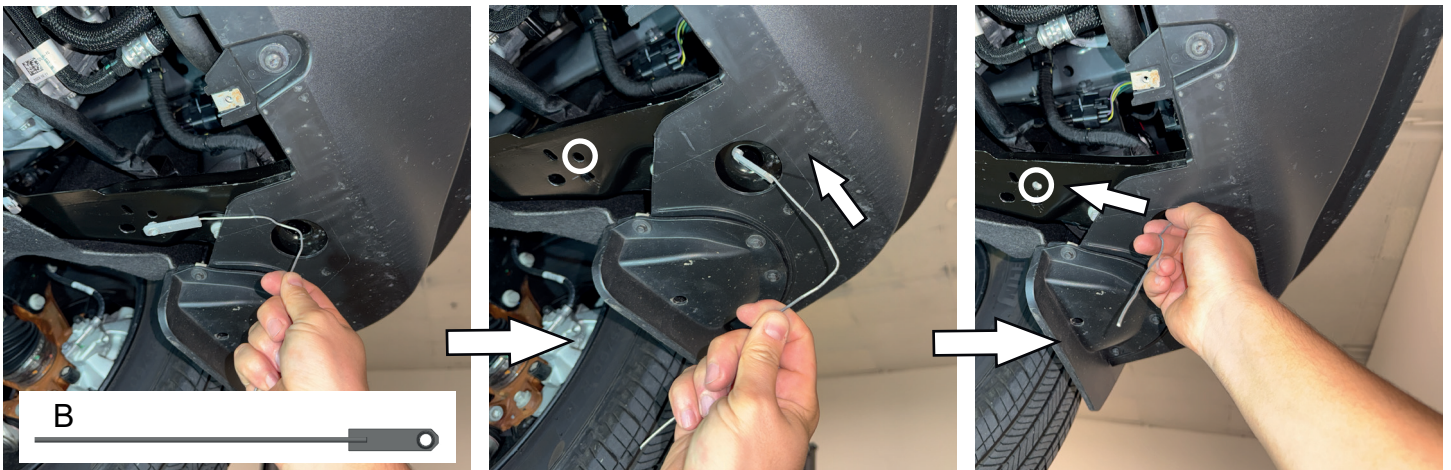

Fig. 2
2. **If not threaded:** Install M8 insert nuts with wire (item B) into the holes as shown in Fig.2 on both sides of the vehicle.